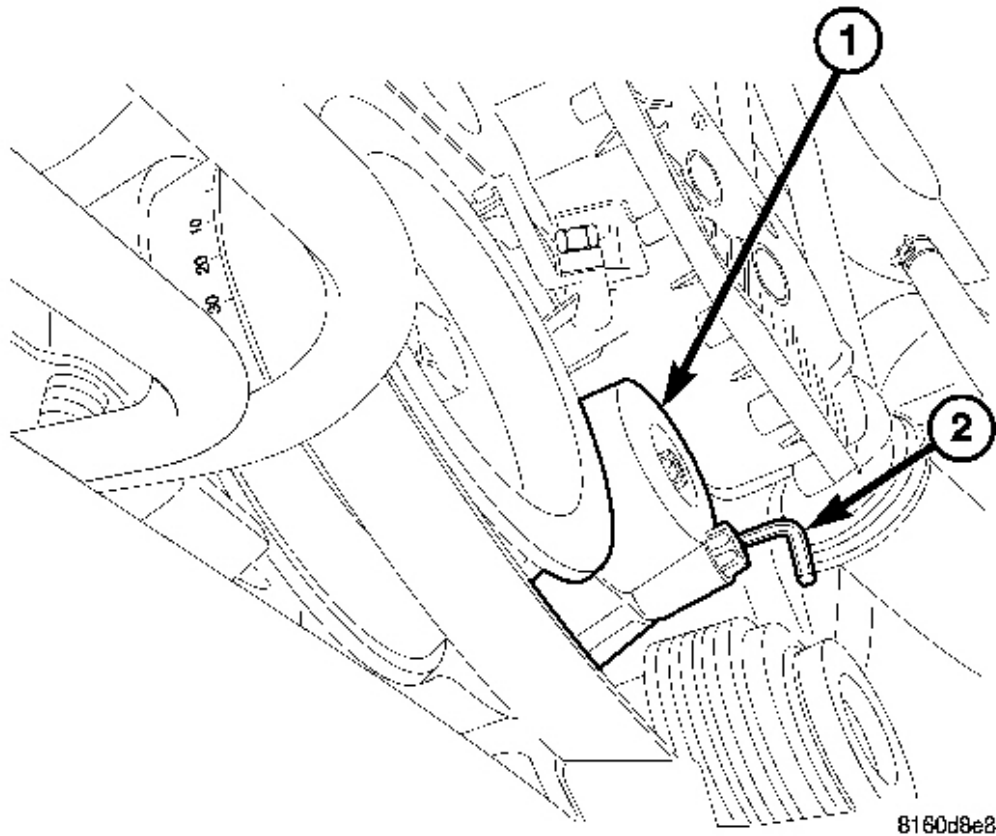

Fig. 311: Drive Belt Tensioner & Drift/Pin
7. Release the accessory drive belt tension by resetting the drive belt tensioner (1) and installing a retaining pin. See **Fig. 311**.